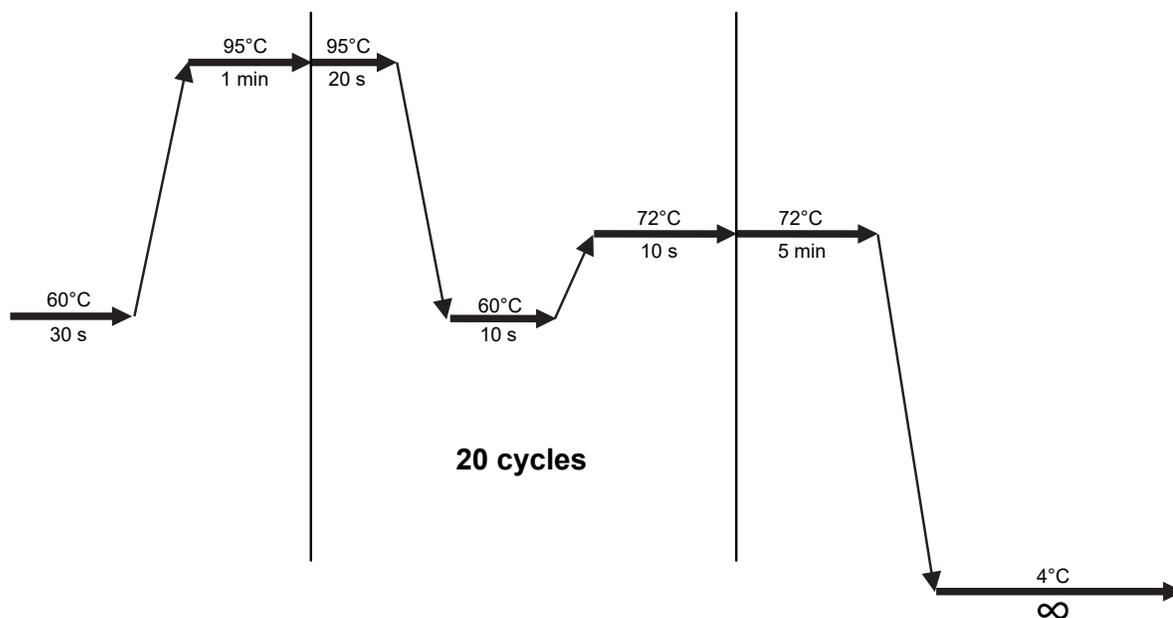

Figure 15 OncoScan 1st PCR thermal cycler protocol.
2. Start the OncoScan 1st PCR thermal cycler protocol. When the thermal cycler block temperature reaches 60°C, pause the protocol. (Figure 15.)
2. Resume the OncoScan 1st PCR thermal cycler protocol. (Figure 15.)